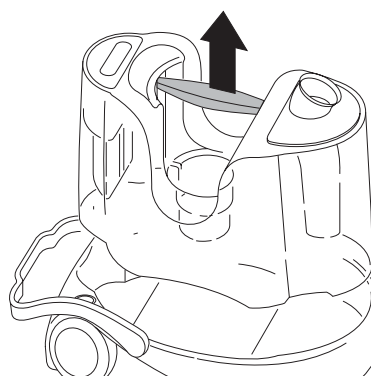

fig. 3
- Remove the wet/dry tank **H** using the handle on the tank (Fig. 3).